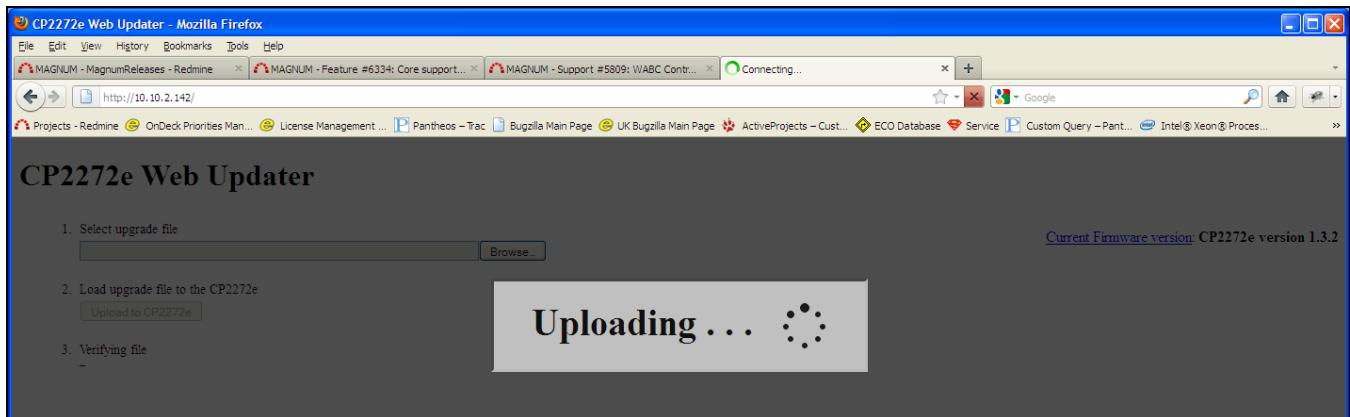

Figure 5-2: Uploading Progress Window
3. The user can load the upgrade file to the CP-2272E control panel by pressing the **Upload to CP2272e** button that appears once the file is selected. The firmware on the panel will now be updated and an uploading message will be displayed in the window as shown in Figure 5-2. Please be patient as this process may take several minutes.